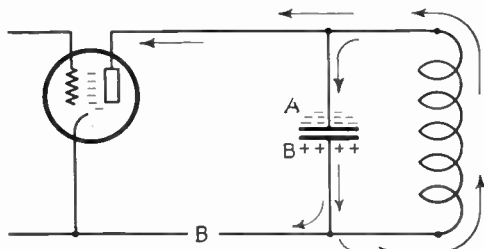

FIG. 294. The second surge starts.
The Surge Returns to Side A. When the grid is negative, no current can flow through the tube. The grid leak holds the electrons trapped on the grid until the heavy load of electrons on side *B* can surge back to side *A*. This makes *A* negative. Some electrons surge to the tube plate and make it very negative. This is the second surge (see Fig. 294). The first and second surges are one cycle or one oscillation.
2. Is the grid positive or negative when the electrons flow from plate *B* back to plate *A*, as in Fig. 294?